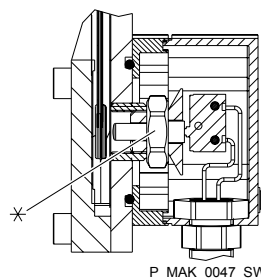

Fig. 22: Cross-section through the diaphragm rupture warning system
9. ➤ Only drain the hydraulic oil from the hydraulic end via the clear acrylic plug (3) - see  on page 39.
10. ➤ Remove the protective cover (5) from the backplate (6).
11. ➤ Screw the clear acrylic plug (3) back in and tighten slightly.
12. ➤ Remove the orange cover from the diaphragm rupture warning system by undoing the screws - see Fig. 22.
13. ➤ Undo the 6 nuts (1) at the liquid end (oil trough?).
15. ➤ Remove the diaphragm (3) (oil trough?).
18. ➤ Place the new diaphragm (3) with the light grey coating outwards at the hydraulic end.
28. ➤ Clean the outside of the bleed valve (5) with compressed air.
30. ➤ Screw in the bleed valve (5).
31. Plug on the bleed hose (4).
34. Screw out the diaphragm rupture sensor by a couple of turns - see Fig. 22.